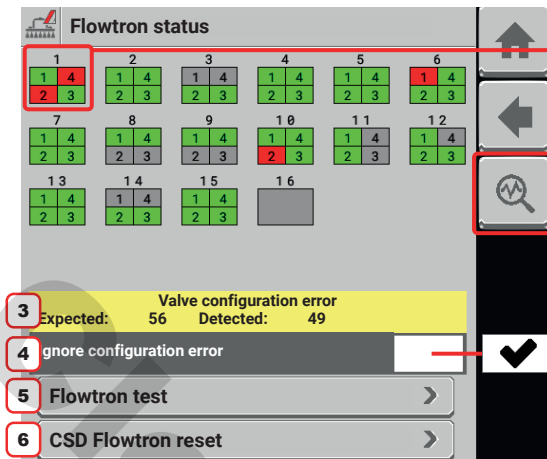

Fig. 94
■ CSD module not detected (CSD module number 16 of Fig. 94).